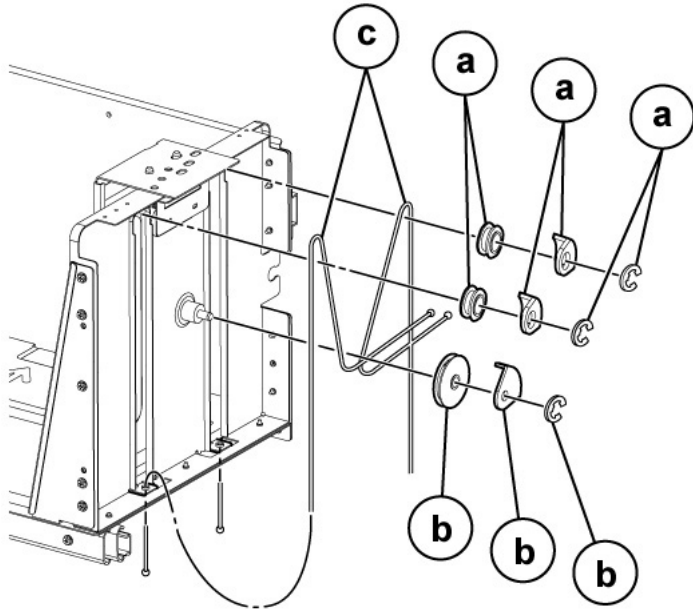

Figure 11 Front Tray Cable details
5. Remove the Front Tray Cables (Figure 10, Figure 11).